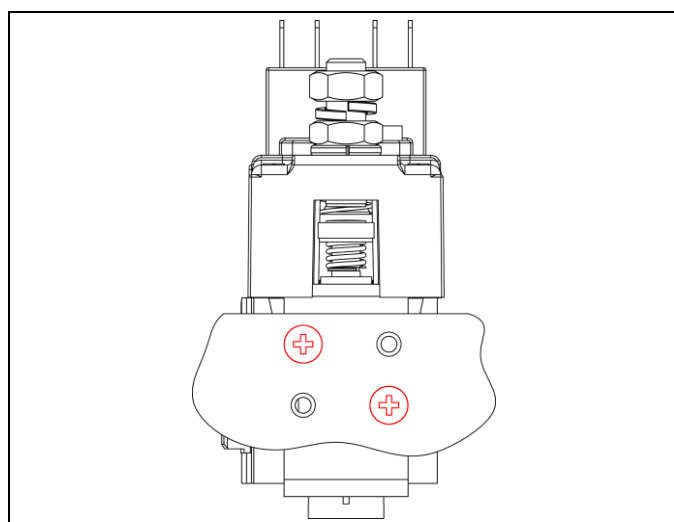

Fig. 1: Recommended installation if mounting direct to magnet frame
- Install the fasteners in two opposing corners as illustrated in **Fig. 1**.